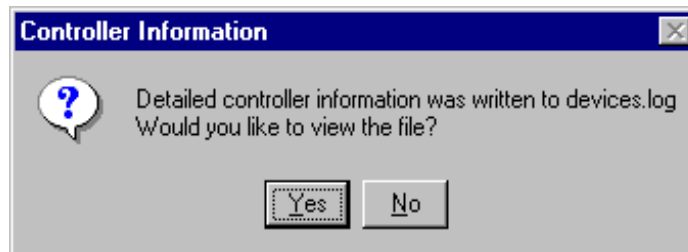

Figure 17-16: Controller Information - View Information Dialog Box
- Note: When the scan of the Supervisory Controller is complete, the Controller Information – View Information dialog box appears (Figure 17-16). You can view the controller information now or at a later time. The controller information is in a file called devices.log.